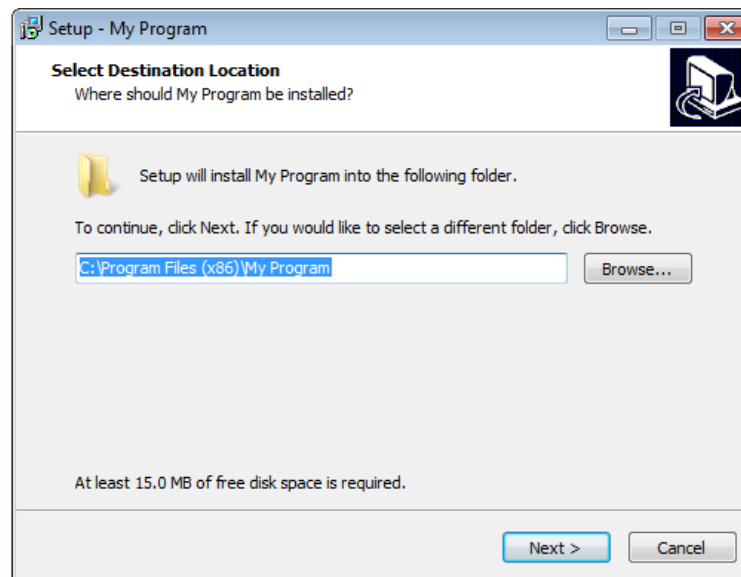

Figure 4: MPS I²C GUI Set-Up Guide
2. Extract the zip package and double-click the .exe file to open the set-up guide (see Figure 4). If a protection window comes up, click “More info,” then click “Run anyway.”